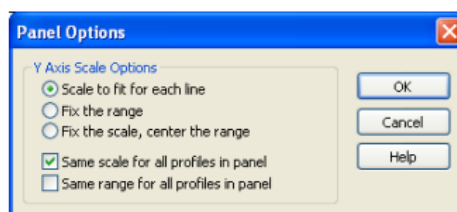

Figure 1.75. – Panel scale options
1. To display two profiles at the same scale, select the *Scale to fit for each line* option and check the *Same scale for all profiles in panel* option box, fig. 1.75.